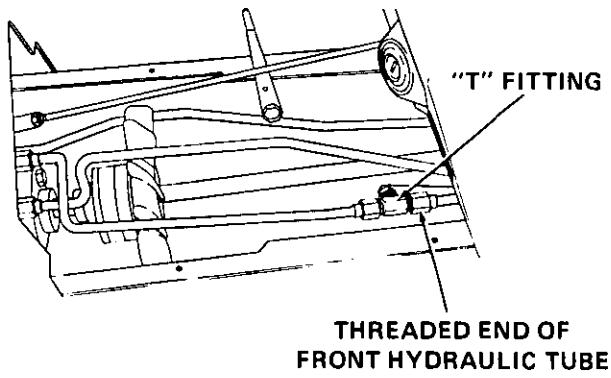

Figure 20
- e. Tractor Models 1862, 1882 and 2082 proceed directly to step 3 to continue installation of front outlet tube (L).
a. Secure the threaded female fitting on the front outlet tube to the T-fitting. Refer to Figure 20.